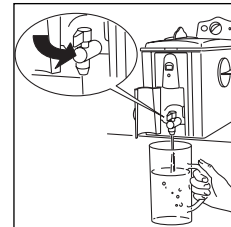

fig. 8
4. Run the liquid into a container (see figure 8), making sure it doesn't overflow.